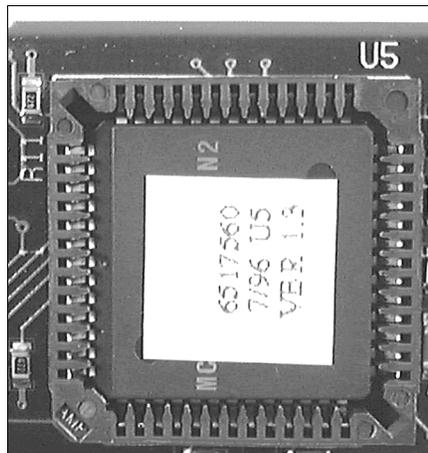

Figure 2. U5
6. Orient the new microcontroller for insertion into the socket by aligning the dot on the microcontroller with the “1” silk screened on the printed circuit board (on the left side in Figure 2). This should also bring the chamfered corner of the microcontroller into alignment with the corresponding corner of the socket (lower left corner in Figure 2).